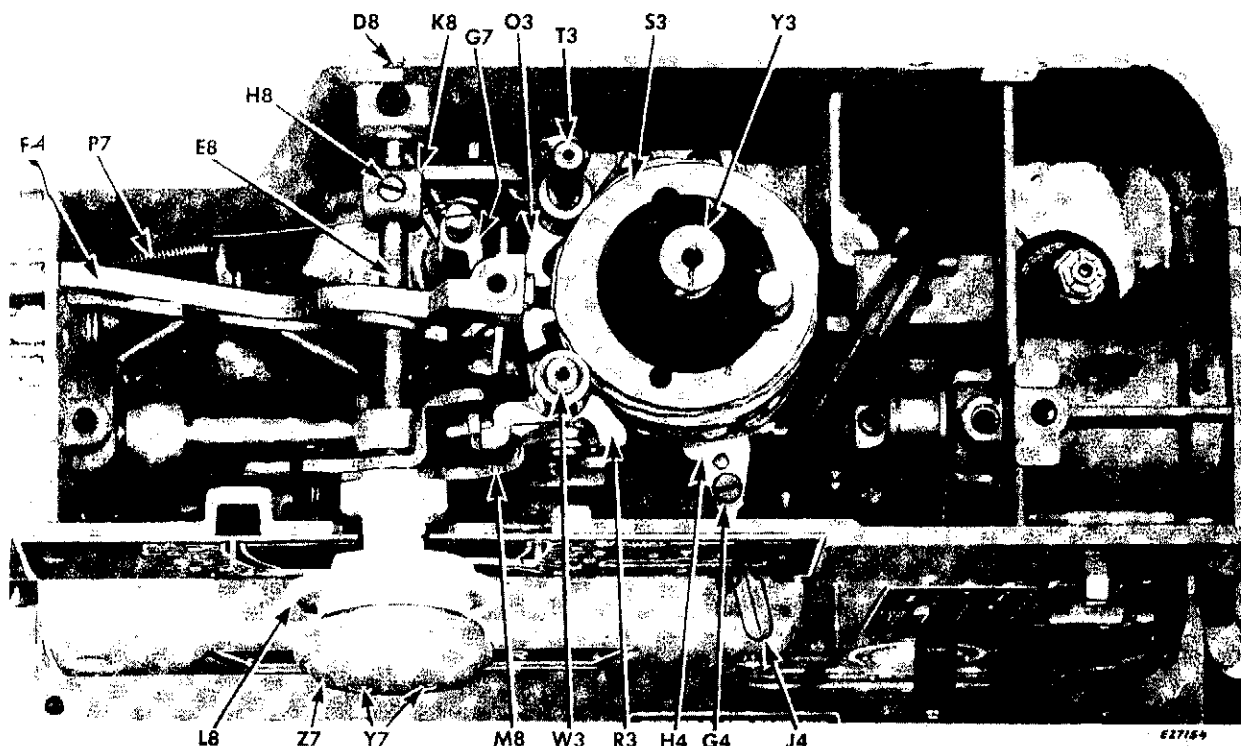
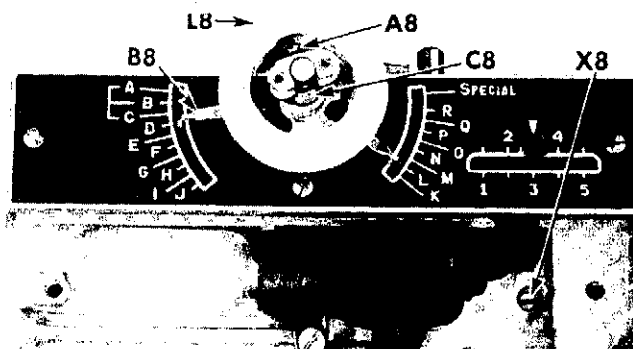
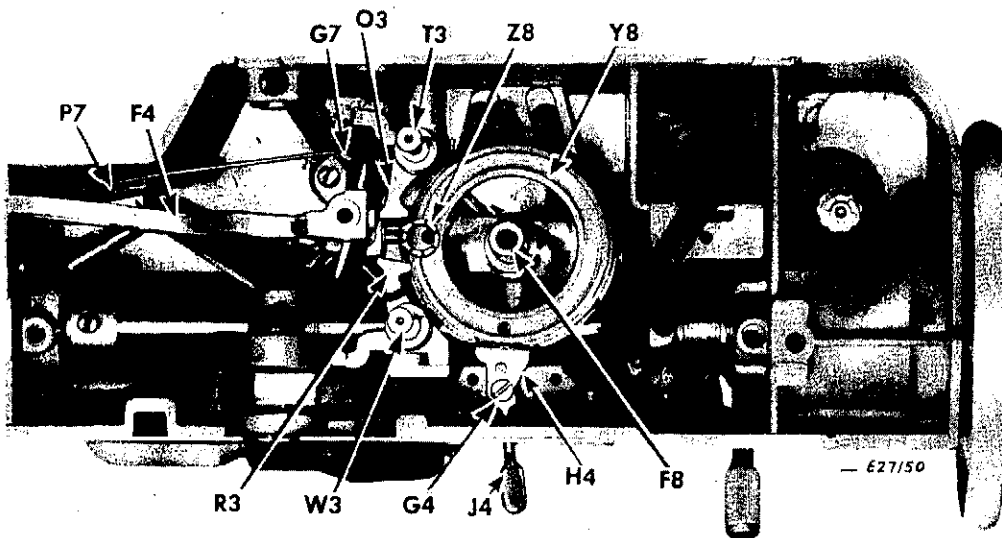

Fig. 321. Cam Stack and Selector Arm Shaft
Fig. 322. Removing Selector
Fig. 323. Showing Location of Ball Pivot on Driving Arm
3. Remove large screw stud **Y3**, **Fig. 321** with spring and remove cam stack **S3**.
2. Remove two screws **Y7** and knob **Z7**, **Fig. 321**.
3. Remove screw **A8**, indicator **B8** and spring **C8**, **Fig. 322**.
4. Remove screw **D8**, **Fig. 321**, at rear of selector arm shaft **E8**.
5. Remove screw **H8** and withdraw shaft **E8** from front of arm, releasing rear selector arm **K8**, and front selector arm and knob **L8**, **Fig. 321**.
7. Remove followers **O3** and **R3**, **Fig. 321**.
1. Replace followers **O3** and **R3**, as shown in **Fig. 321**.
2. Replace knob **L8** so that bracket on front selector arm **M8** slides into its slot in front follower **R3**, **Fig. 321**.
3. Replace selector arm shaft **E8** slipping it through front selector arm knob **L8** and rear selector arm **K8**, **Fig. 321**. Make certain that bracket on rear selector arm **K8** slides into its slot in follower **O3**.
4. Replace and securely tighten screw **H8**, **Fig. 321** so that screw clamps down on counterbore on shaft.
5. Replace spring **C8** and indicator **B8**, **Fig. 322**. Fasten with screw **A8**, **Fig. 322**.
6. Replace screw **D8**, **Fig. 321** on rear of arm selector shaft.
7. Replace knob **Y7**, **Fig. 321**. Fasten knob to indicator **B8**, **Fig. 322** with two screws **Z7**, **Fig. 321**.
4. Lift needle bar driving arm, **F4**, **Fig. 323** from machine.
machine, so that ball pivot **Z8**, **Fig. 323** rides in socket provided for it in pattern selector **Y8**, as shown in **Fig. 323**.
CAUTION: Make certain tension arm **G7**, **Fig. 323** is in correct position in relation to needle bar driving arm, as shown in **Fig. 323**.
(See **Fig. 323**)
3. Remove spring **P7**, **Fig. 323**.
6. Loosen set screw **X8**, **Fig. 322, page 158** and remove entire cam stack assembly **S3** with worm wheel eccentric shaft **F8**, **Fig. 323** and screw stud **Y3**, **Fig. 321, page 158**.
2. Make certain that needle bar driving arm ball bearing pivot **Z8** is engaged with pattern selector, as shown in **Fig. 323**.
5. Tighten set screw **X8**, **Fig. 322** at front of machine arm.
6. Replace spring **P7**, **Fig. 323**.